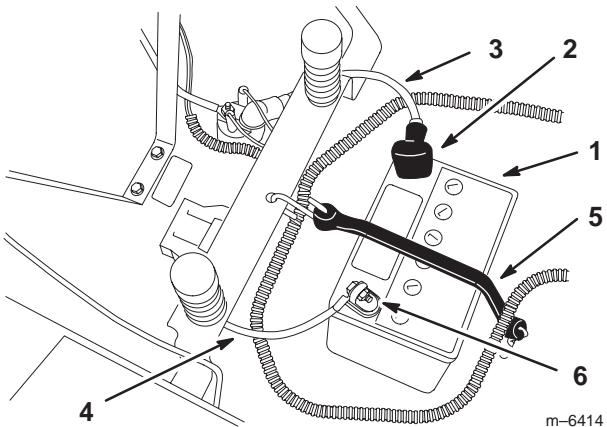

Figure 33
- Disconnect the negative (black) ground cable from the battery post (Fig. 33).
- Slide the rubber cover up the positive (red) cable. Disconnect the positive (red) cable from the battery post (Fig. 33).
- Remove the battery hold-down (Fig. 33) and lift the battery from the battery tray.
- Position the battery in the tray with the terminal posts away from the control panel (Fig. 33).
- Secure the cables with 2 bolts (1/4 x 3/4 inch), washers (1/4 inch), and nuts (1/4 inch) (Fig. 33).
- Secure the battery with the hold-down (Fig. 33).